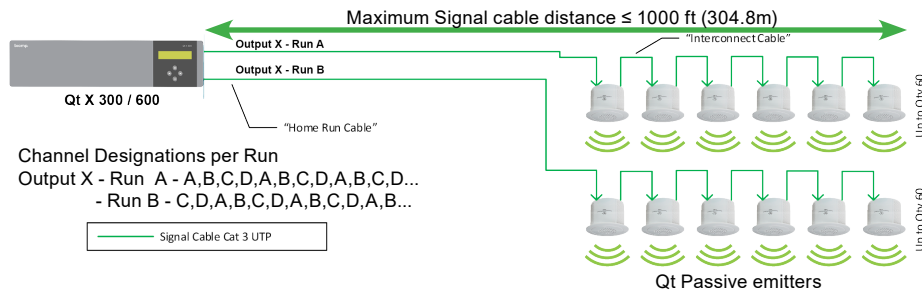

Figure 16. Passive emitter runs and channel designations
4. Install the first emitter in the ceiling tile by pushing the emitter through the front of the hole in tile and securing it with the locking ring. Connect the cable run from the Qt X output RJ45 connector to the INPUT connector of the first emitter (Figure 16). *The input jack has the rounded tab above it and can help if you can't see it easily.*